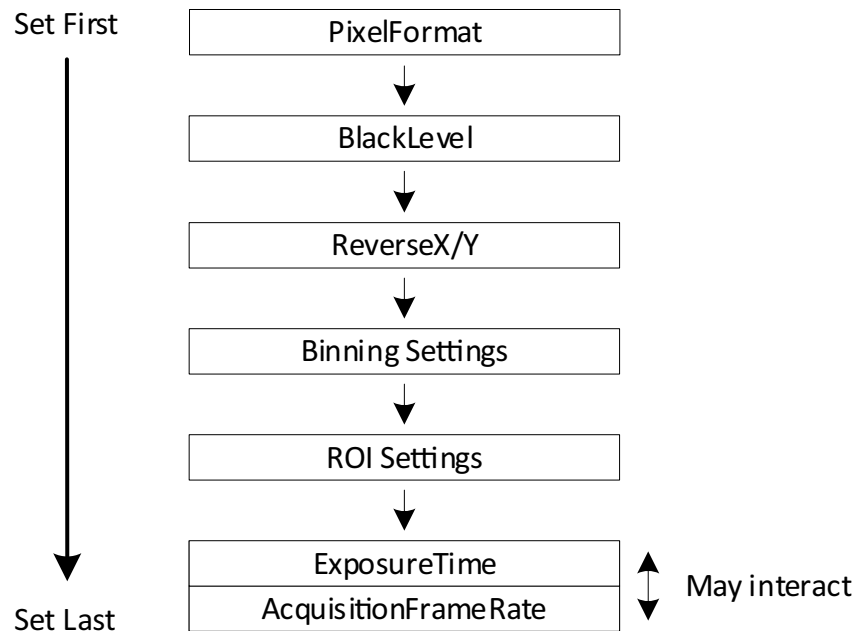

Figure 128: Interdependencies between controls
The conversion between time and clock cycles affects control values. Controls for pixel format, bandwidth, ROI, and exposure time are related to each other. Changing values for one control can change values for another control. For example, frame rates can be reduced when **MIPI Data Format** is changed subsequently. Figure 128 shows the interdependencies.
- To avoid readjustments, apply settings in the order shown in Figure 128.